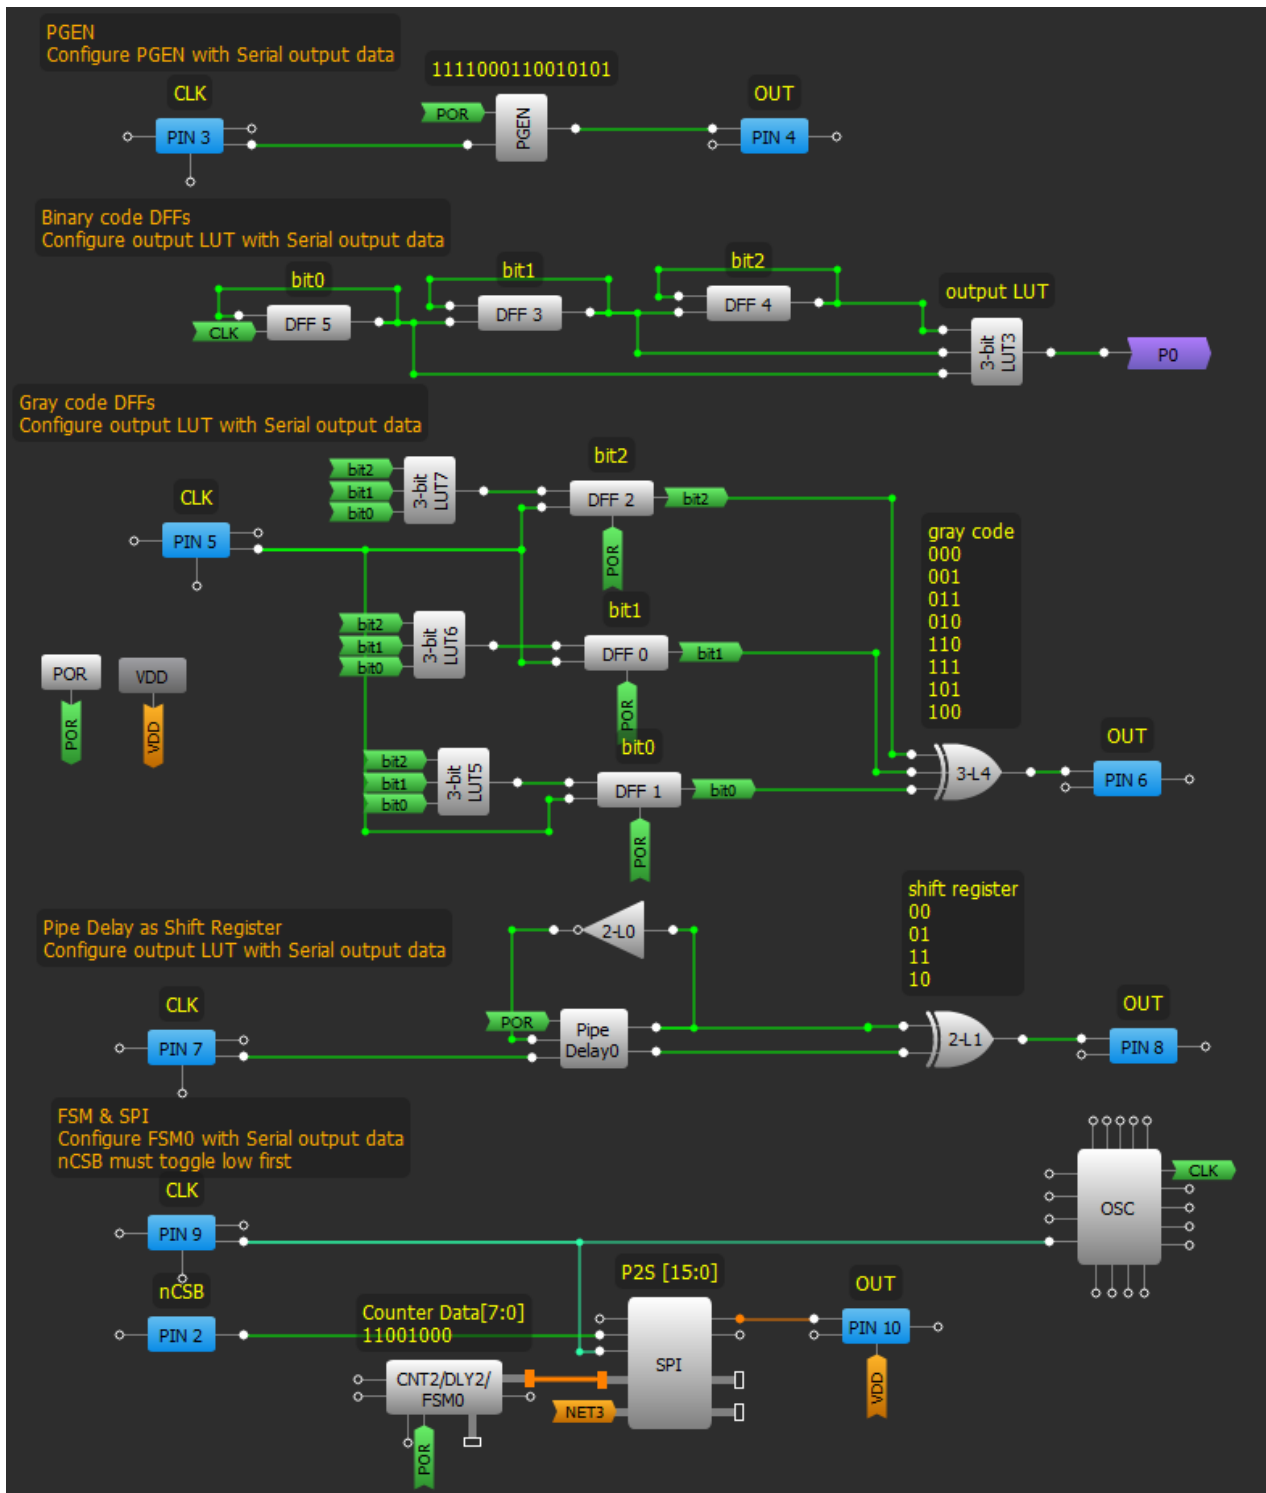

Figure 9. Matrix 0
- Make matrix connections as shown in Figure 9.
In the 'Vertical' ASM, the design scrolls through the states of one column and then moves on to the next column. In Figure 9, each ASM output is windowed for 8 clock periods by the Gray Code DFFs. The DFF3 generates a pulse every period which is used to transition between states.